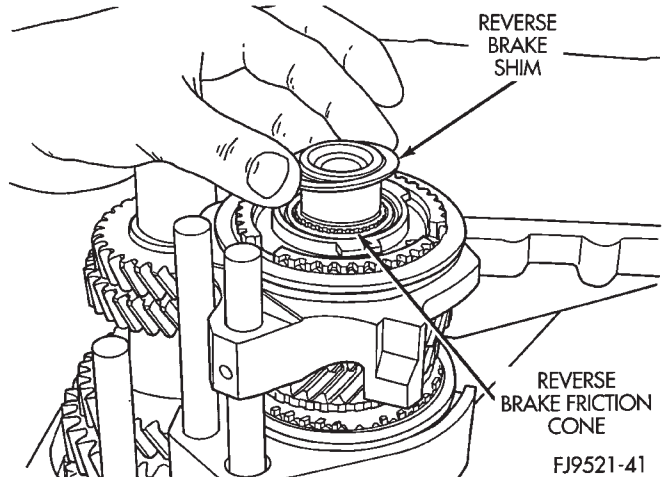

Fig. 73 Reverse Brake Shim
(8) Install reverse brake shim (Fig. 73). Apply petroleum jelly to shim to hold in place.